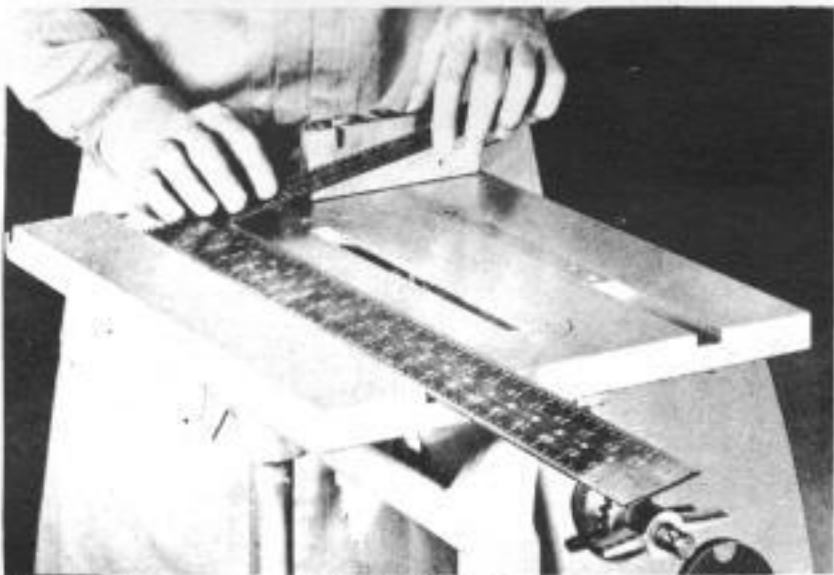

Fig. 8 Miter gauge must be 90° to table slots
3.... THE MITER GAUGE, WHEN SET AT 90 DEGREES, MUST BE AT RIGHT ANGLES TO THE TABLE SLOTS. To check, set miter gauge in either slot and use a square as shown in Fig. 8. Be sure that one arm of the square is held firmly against the face of the miter gauge and the other is flush against the side of the second table slot. If the angle between miter gauge and slot is not exactly 90 degrees, adjustment is required.